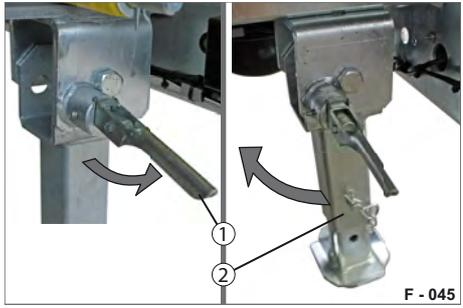

Fig. 62 Folding in the folding support
- ▶ Pull the spring bar (Fig. 62/1) into the horizontal position.
- ▶ Fold the folding support (Fig. 62/2) upwards (into the horizontal position) and lock it with the spring bar (Fig. 62/1).